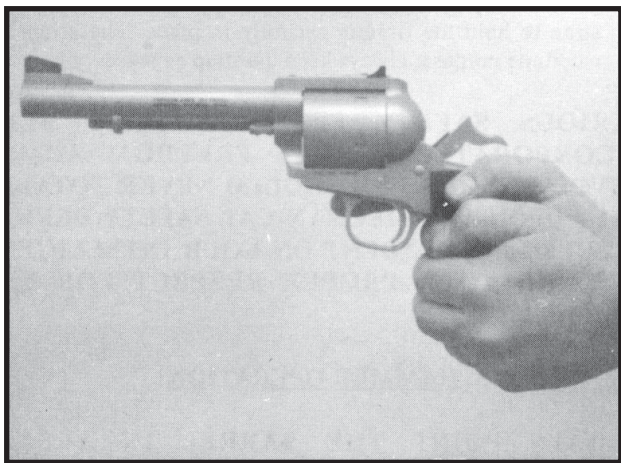

Figure 1 -- Two-Handed Grip
A. Hold the revolver using a two-handed grip. Figure 1 shows one type of two-handed grip.